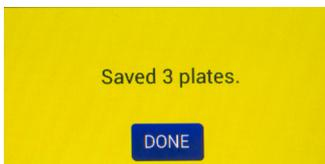

Fig. 28—This message indicates the plate(s) was/were saved to the USB.
3. Once the data is transferred to the USB flash drive, the message displays to indicate the files were saved successfully (Fig. 28).